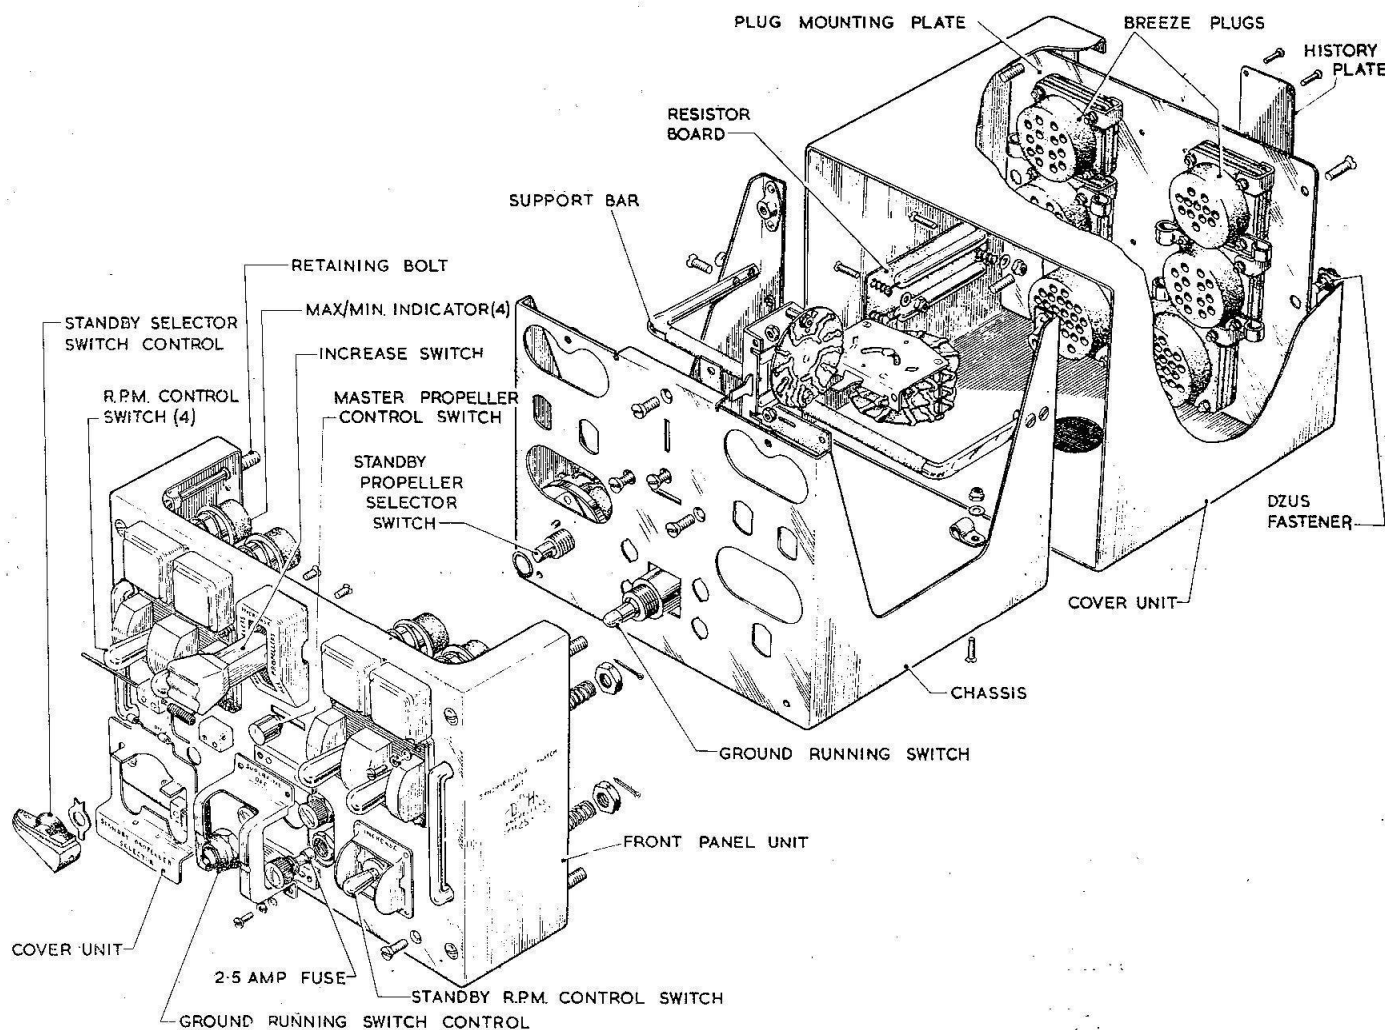

Fig. 1. Exploded view of synchronizer switch
1. The synchronizer switch unit, Type Q1088/2 (fig. 1) consists of a switch chassis assembled to a plug plate and a front panel. A dust cover is fitted to the whole unit and secured with Dzus fasteners. The unit is mounted on the pilot's console in the cockpit.